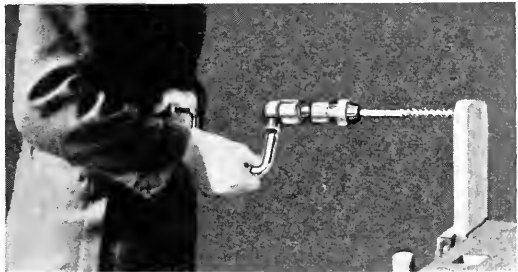

Fig. 9. Boring a Hole.
- 5—Locate a point  $\frac{3}{4}$ " inch from one end on a center line drawn lengthwise of the stock and bore hole with  $\frac{3}{8}$ " inch bit. Bore from one side until the point of the bit comes through, then turn the board and finish from the other side. This prevents splitting of the wood around the hole. Fig. 9, Fig. 10.